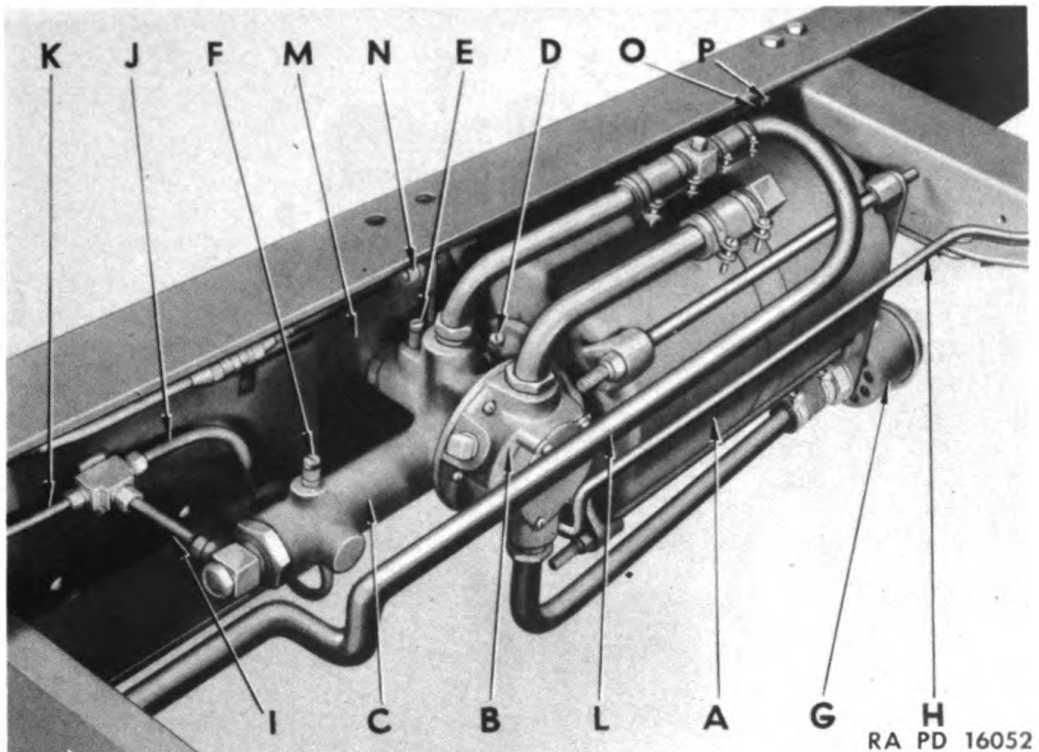

Figure 69—Brake Hydrovac Unit, Air Cleaner, Vacuum and Hydraulic Lines Installation
a. Air cleaner (Fig. 70) is attached to Hydrovac unit as illustrated in Fig. 69. Air entering power cylinder through relay valve is filtered by curled hair within air cleaner. Air passing through curled hair cleaning element which is oiled, is cleaned thus preventing dirt from reaching relay valve and power cylinder.
(1) Remove hose